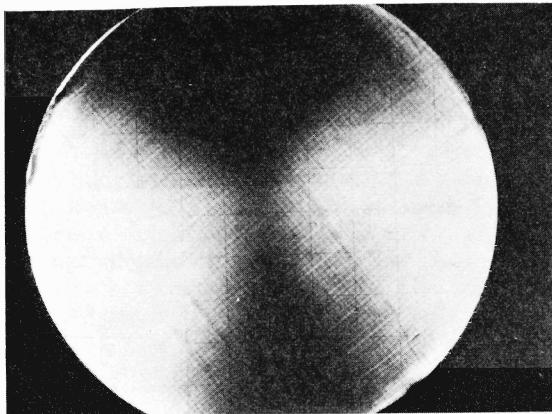

Figure 3-7. Fade positive which occurs after Presentation Selector is left in VIEW for 2 to 4 minutes
- h. FADE POSITIVE - Appears as random green areas on a dark background in MAX. PERSISTENCE. (Figure 3-7.)